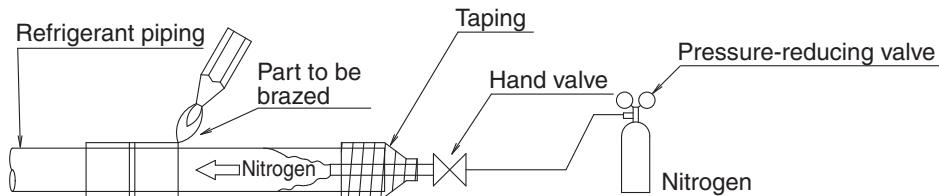

Fig. 15
- Nitrogen should be set to 2.9 psig with a pressure-reducing valve if brazing while inserting nitrogen into the piping. (Refer to Fig.15)